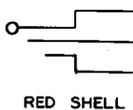

Fig. 3—150 Plug
2.03 **150:** The 150 plug (Fig. 3) is used in connection with common battery switchboards equipped with cut-off jacks, but not equipped with plug-up cords, to clear permanent signal by opening the lines. This plug is used with 280- or similar-type jacks.